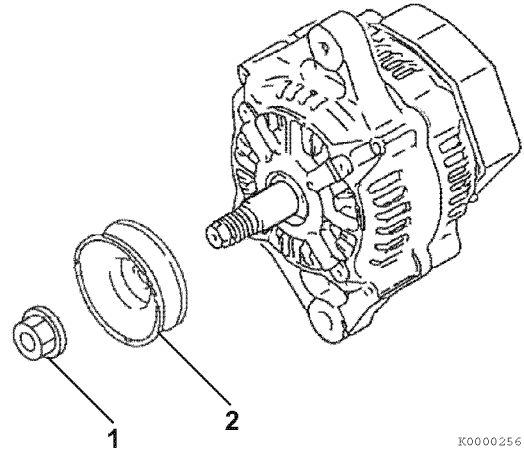

Figure 11-5
1. Remove the nut (1, Figure 11-5) from the shaft of the rotor assembly. Remove the pulley (2, Figure 11-5).